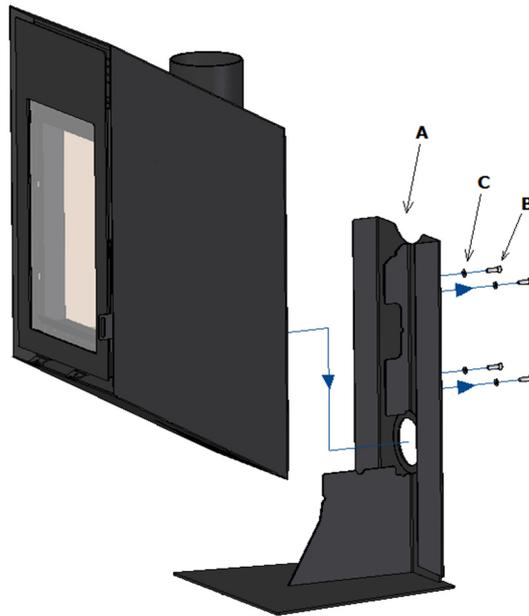
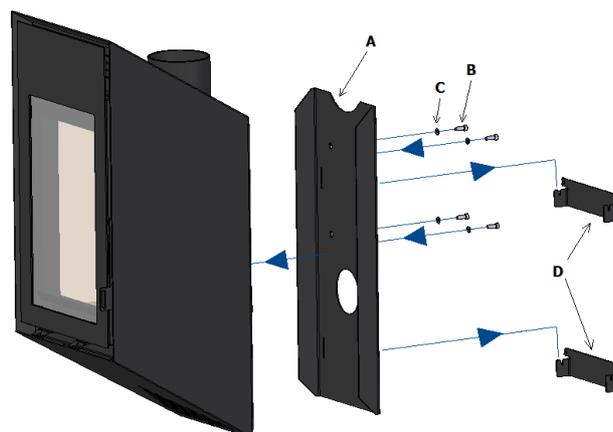
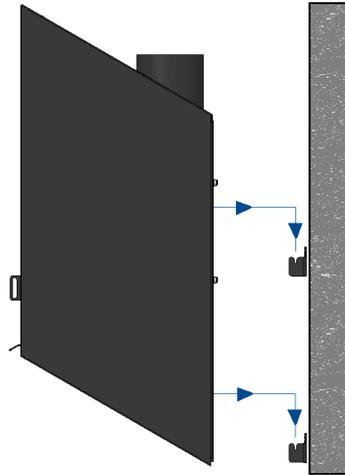

Fig. 26 – Removing floor support
Fig. 27 – Install wall bracket
Fig. 28 – Positioning of the stove wall brackets
- 1 - Remove the bracket (A) installed on the heater, unscrew the screws (B).
Warning: When removing the screws, the stove no longer has the support (A) is the only foothold that the stove has the floor. Before removing all the screws should ensure that the stove is safe and will not fall see Figure 26.
- 2 - Install wall bracket (Figure 27 [D]) using the supplied components according to the height at which to place the stove. Use the wall bracket (Figure 27 [A]) as a way to verify the correct position of the supports;
- 3 - Followed must replace the floor support (Fig 26 [A]) for the wall mount (Figure 27 [A]) provided in the kit purchased, using the same screws and washers from the previous operation;
- 4 - Finally, put the stove on the wall brackets (Figure 27 [D]) pre-installed. To do this you must first put the stove in the 2 supports simultaneously and then fit the stove into the slots on both brackets. Figure 28.